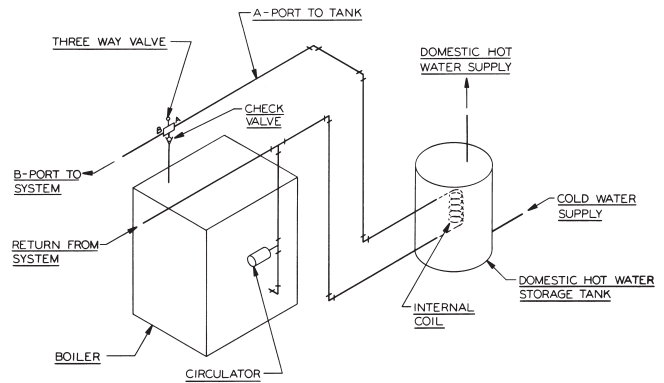

Figure 3.4: Piping with Peerless Indirect Water Tank
5. If using a Partner indirect fired water heater or other, see Figure 3.4 for typical piping. Also refer to additional instructions supplied with the Partner.